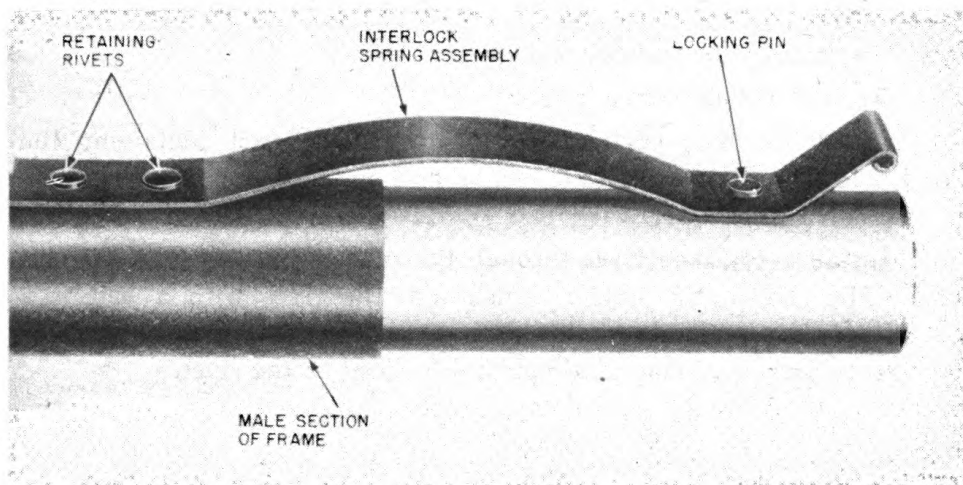

Figure 12. Detailed view of interlock spring assembly.
a. REPLACING INTERLOCK SPRING ASSEMBLY (fig. 12). The interlock spring assemblies are riveted to the female sections of the tubular frame and are designed to hold two sections together. The spring assembly is replaced as follows:
(1) Cut off, or punch out the two spring retaining rivets and remove the defective spring.
(2) Place the new spring assembly on the frame so that the two holes in the spring line up with the holes in the frame.
(3) Insert a 3/16-inch rivet through the wall of the frame and through the spring by working through the two large holes in the frame which are directly opposite the rivet holes. The head of the rivet will be inside the tube.
(4) Insert a bucking bar through the large hole in the frame and position the bar firmly against the head of the rivet. Flare the tubular end of the rivet over the spring on the outside of the frame with a flaring tool or a ball-peen hammer.
(5) Proceed to install the second rivet as described above.